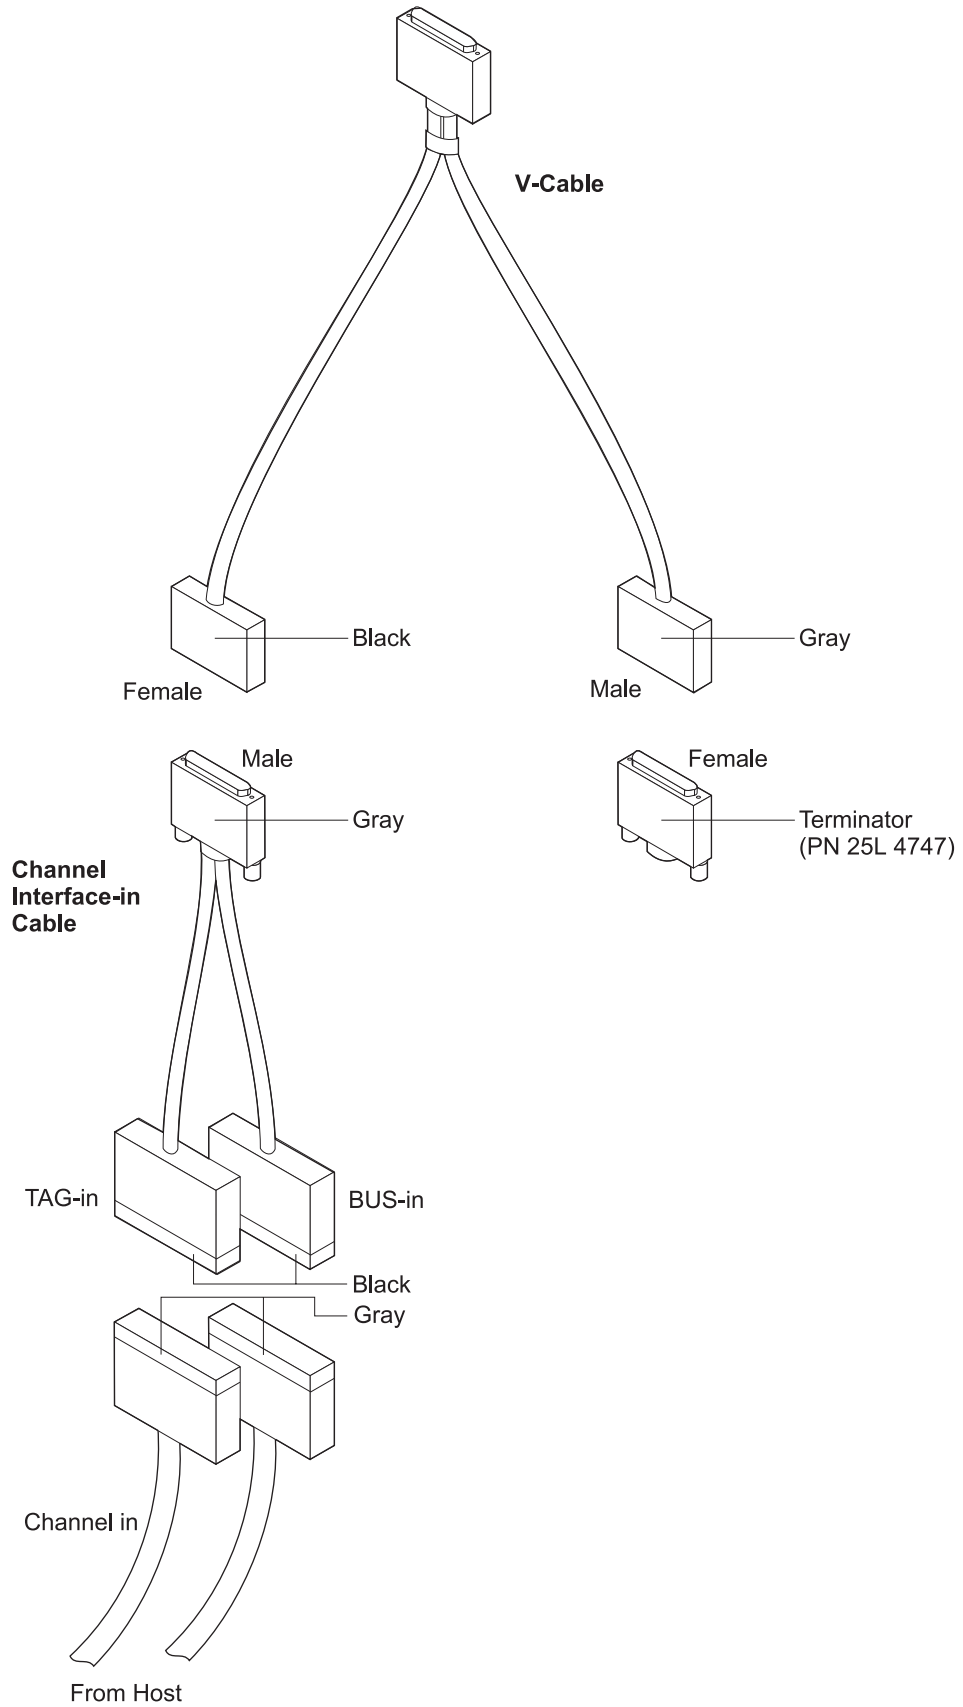
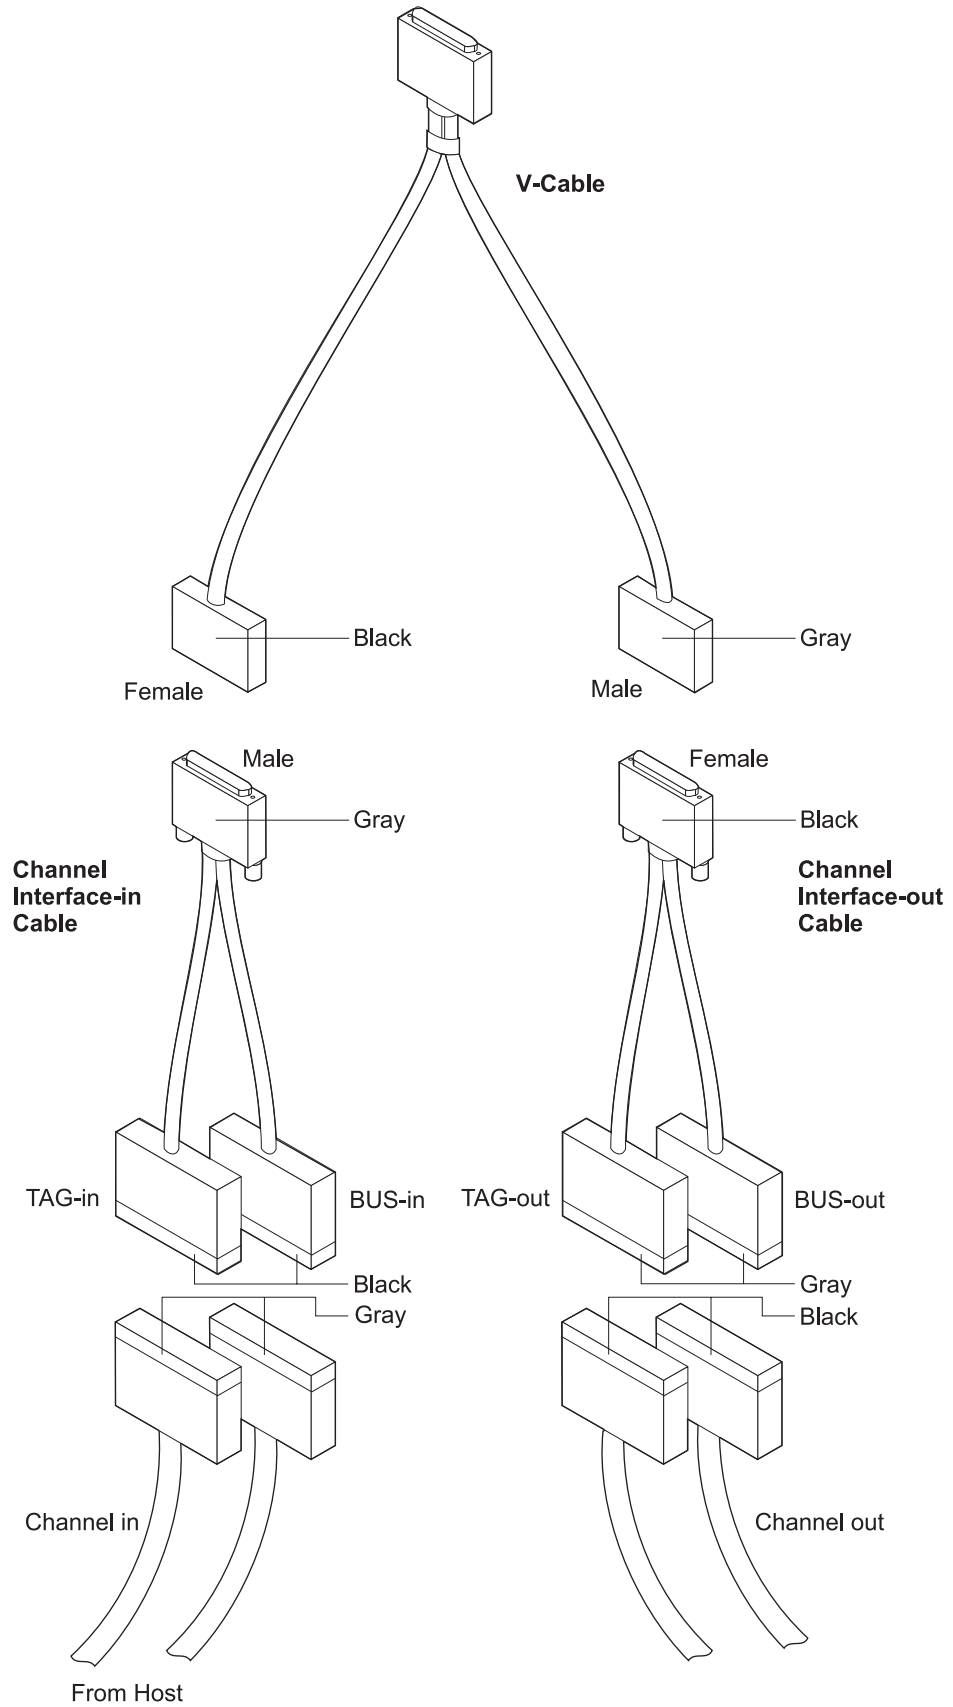
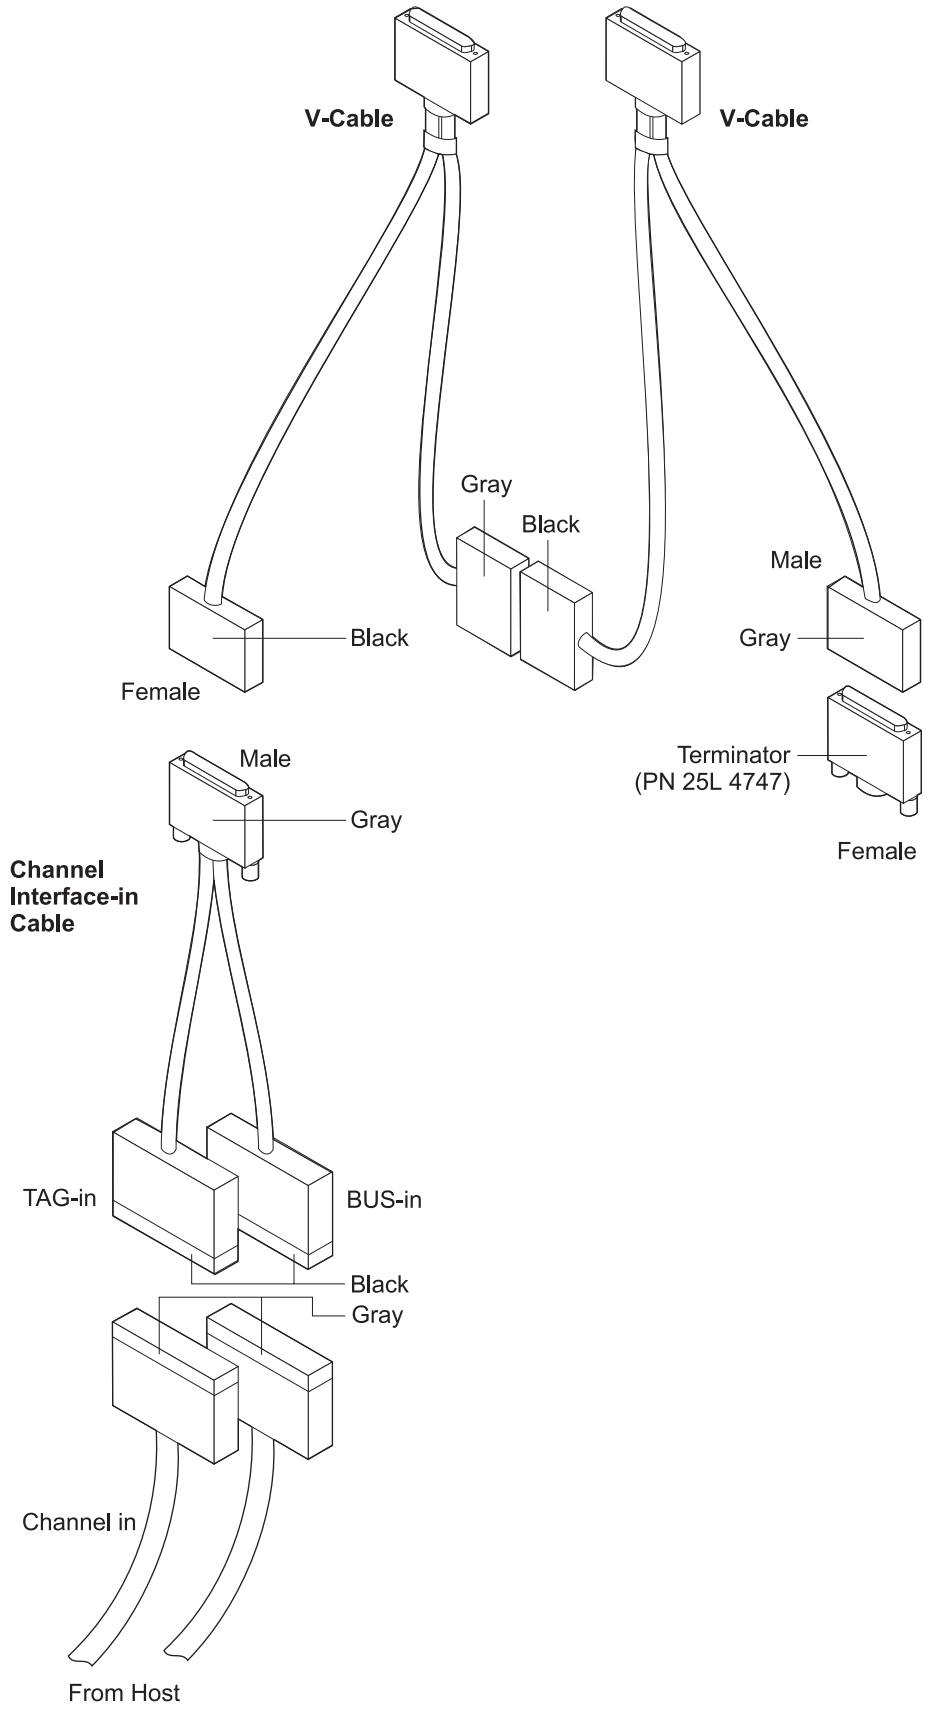

Figure 2-2. Cabling to IBM 2216 at the End of Channel
Figure 2-3. Cabling to IBM 2216 in the Middle of the Channel
Figure 2-4. Interconnected V-cables
The adapter attaches to the channel with the Channel Interface Cable group (*V-cable and two unique optional-order Channel Interface Cables*). Figure 2-3 on page 2-27 shows how the cables attach to the channel.
The standard Parallel Channel Adapter connection to a channel is a 1.8 m (6 ft) V-cable and two unique Channel Interface Cables (see Figure 2-2 on page 2-26 and Figure 2-3 on page 2-27). However, multiple adapters can be interconnected in a serial fashion by connecting cables as shown in the figures that follow.
6. Use Figure 2-2 on page 2-26, Figure 2-3 on page 2-27, and Figure 2-4 on page 2-28 as reference to continue the next steps. Connect the Parallel Channel Adapter cables beginning at the host channel cable.